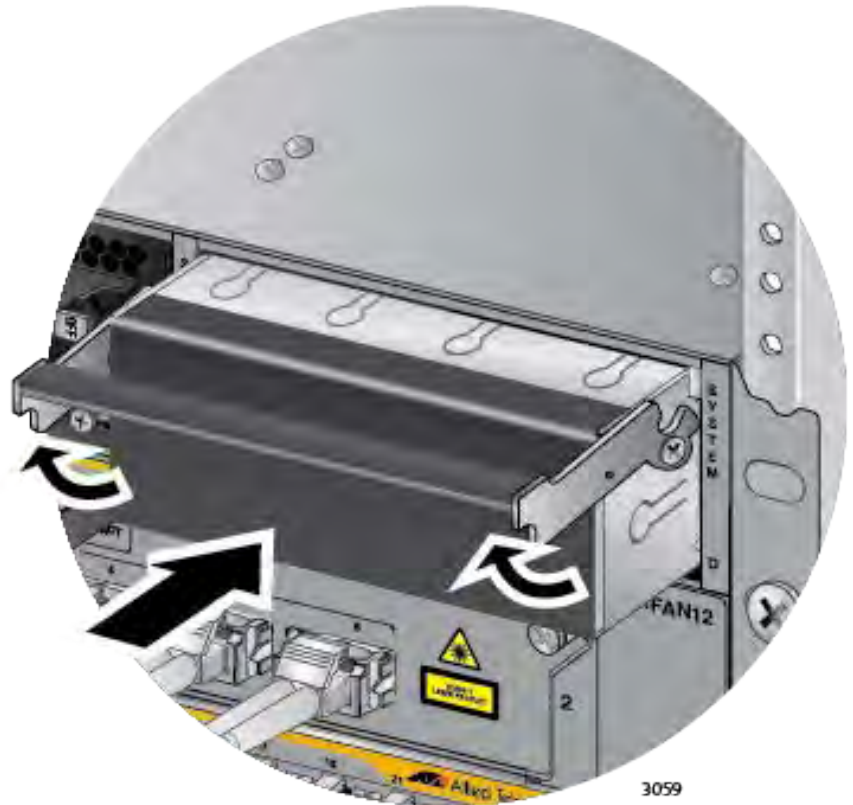

Figure 172. Installing a Blank Power Supply Slot Cover
13. Place the locking handle on the slot cover in the up position and slide the cover into the empty power supply slot. Refer to Figure 172 on page 281.